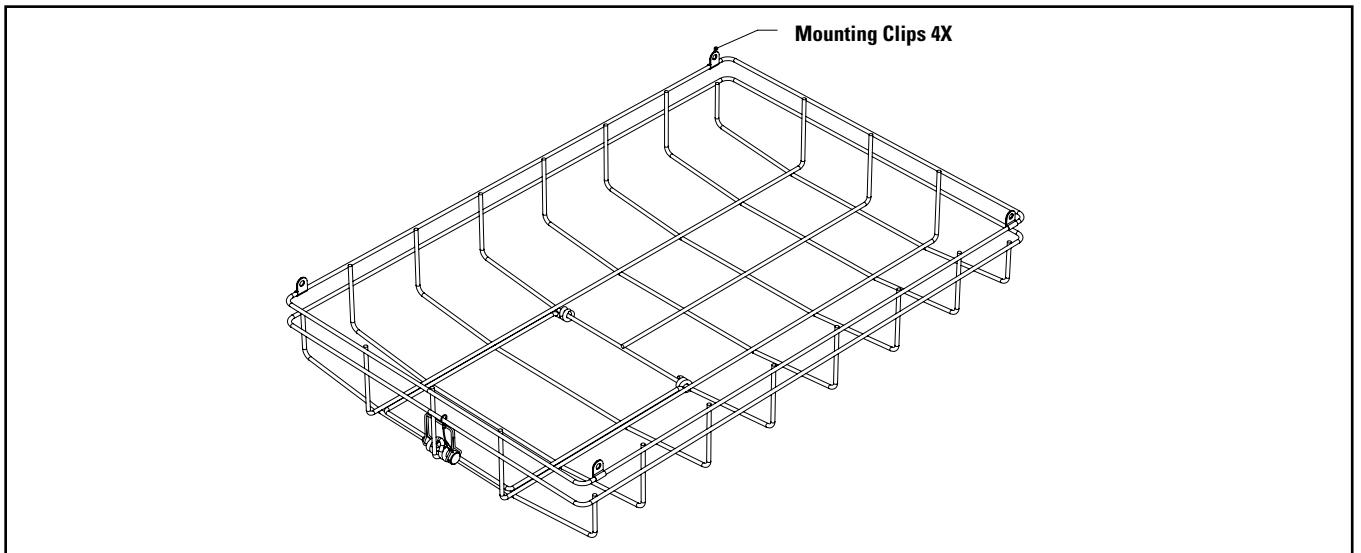

Figure 4.
- Install the 4 wire guard mounting clips to each corner of the guard as shown in (Figure 4).